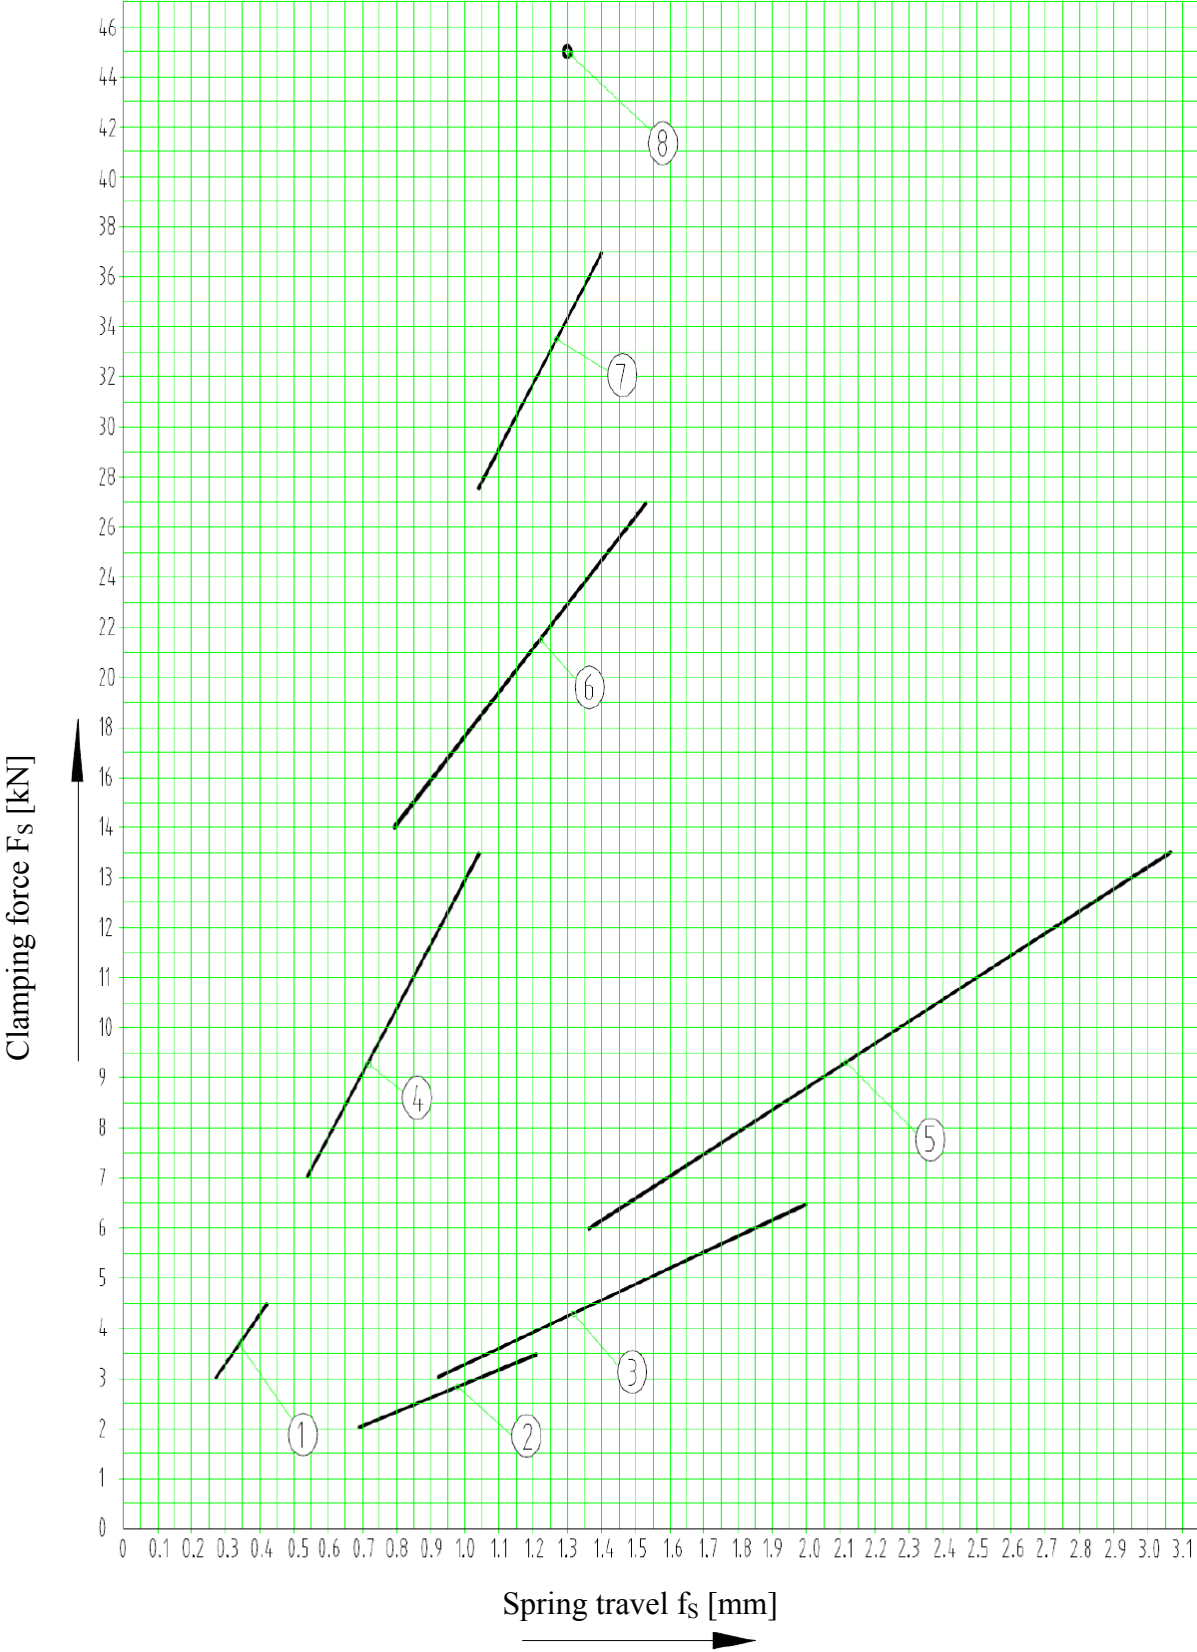
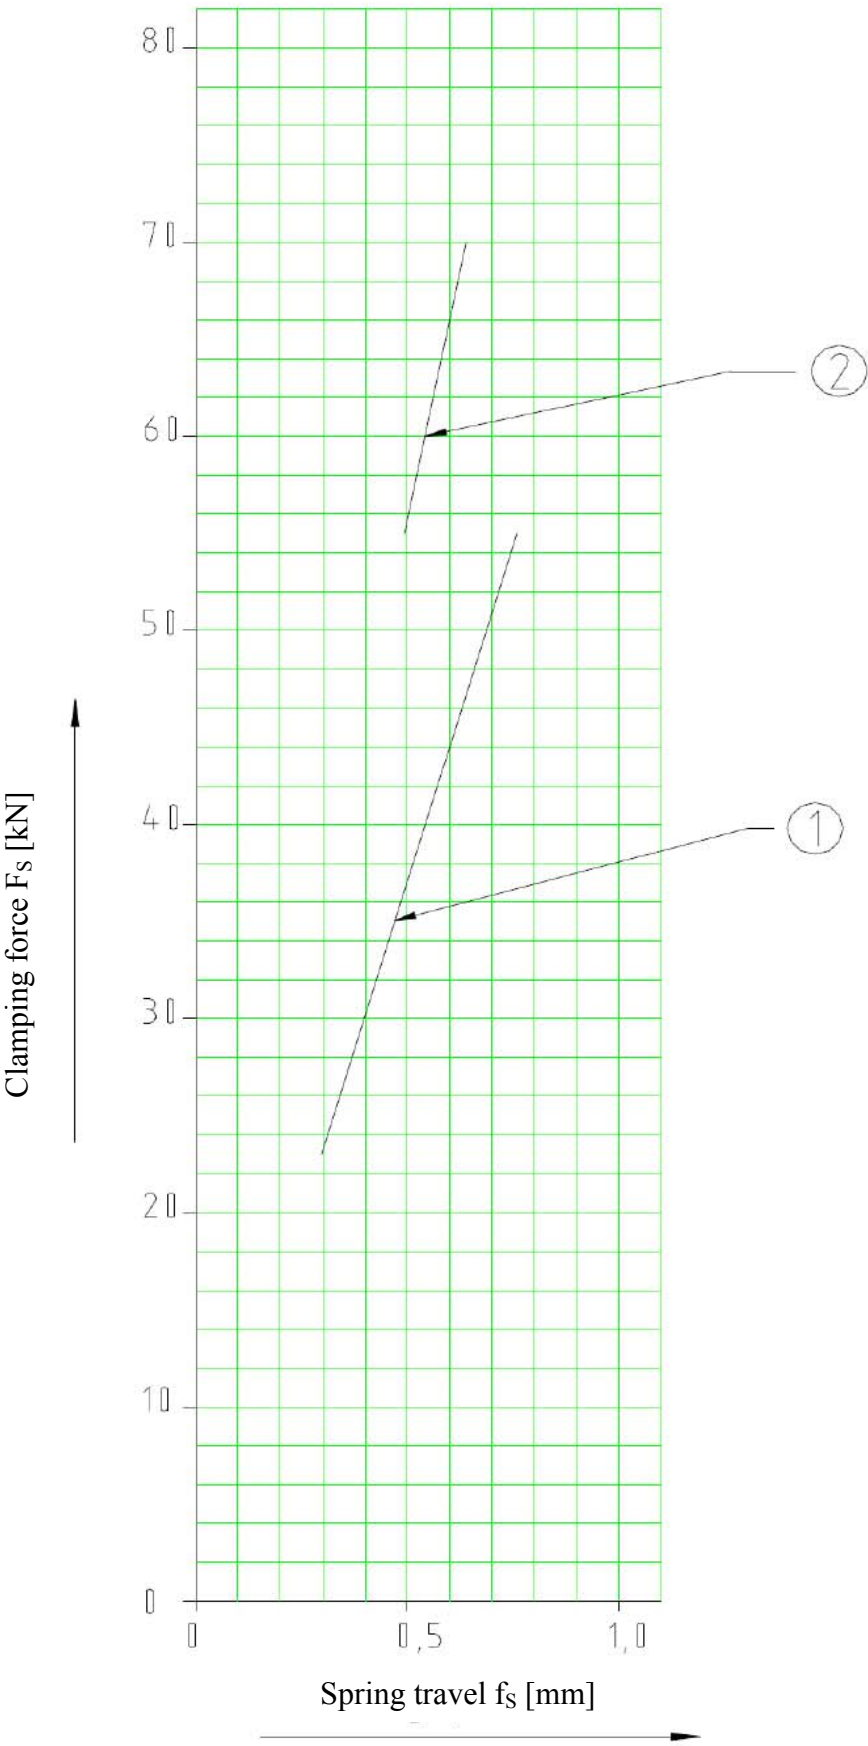

Figure 6: Determining the clamping force depending on the spring packet
Figure 7: Determining the clamping force depending on the spring packet (special case KE01 and KE02)
- Adjust clamping force according to the datasheet of the related semiconductor component with the aid of Figure 6 **Fehler! Verweisquelle konnte nicht gefunden werden.**and Figure 7.